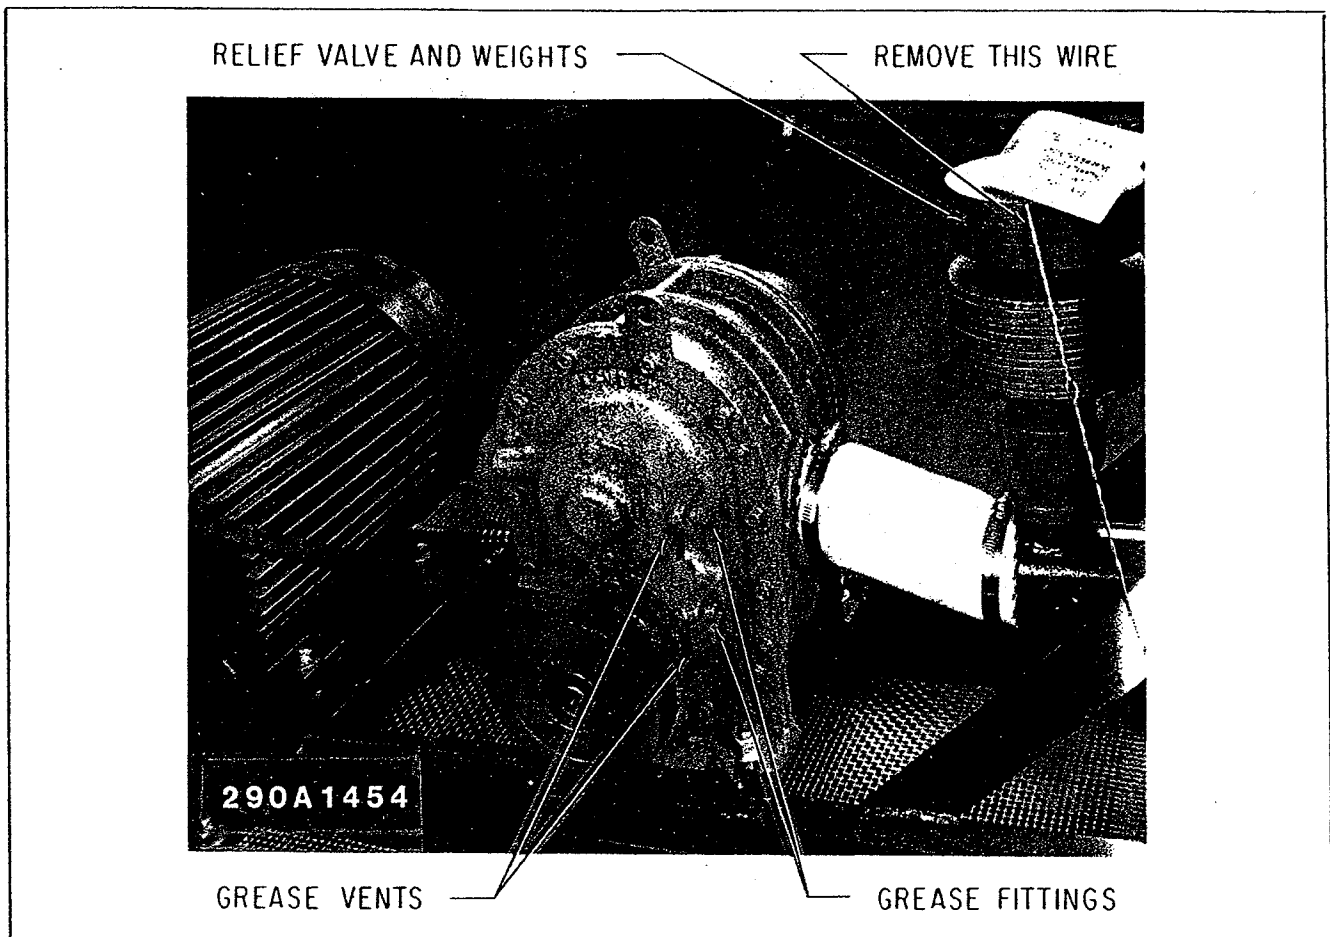

Figure 5-3. Blower Assembly Lubrication.
The bearings at the drive (pulley) end of the blower are packed with grease before the siren is shipped. Add or renew grease through the two grease fittings; one on each bearing at the drive end of the blower, as shown in figure 5-3. The old grease is forced out of the vents as new grease is added.
1. Remove the weights from the blower relief valve. Clean all machined surfaces and cover them with a film of SAE 10W40 motor oil. See figure 5-3 to locate the blower relief valve.